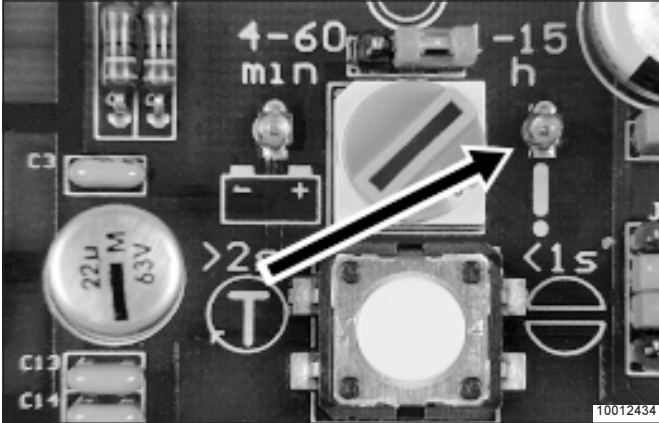

Fig. 14 - LED for the monitoring time or fault indication
*Note: LED display fig.14 indicates the same operating state as the signal lamp.*
- The signal lamp or the LED fig. 14 indicates the operating state of the centralized lubrication system.
- The faults are indicated by different flashing frequencies of the signal lamp or the LED fig. 14. See "Fault Indication".